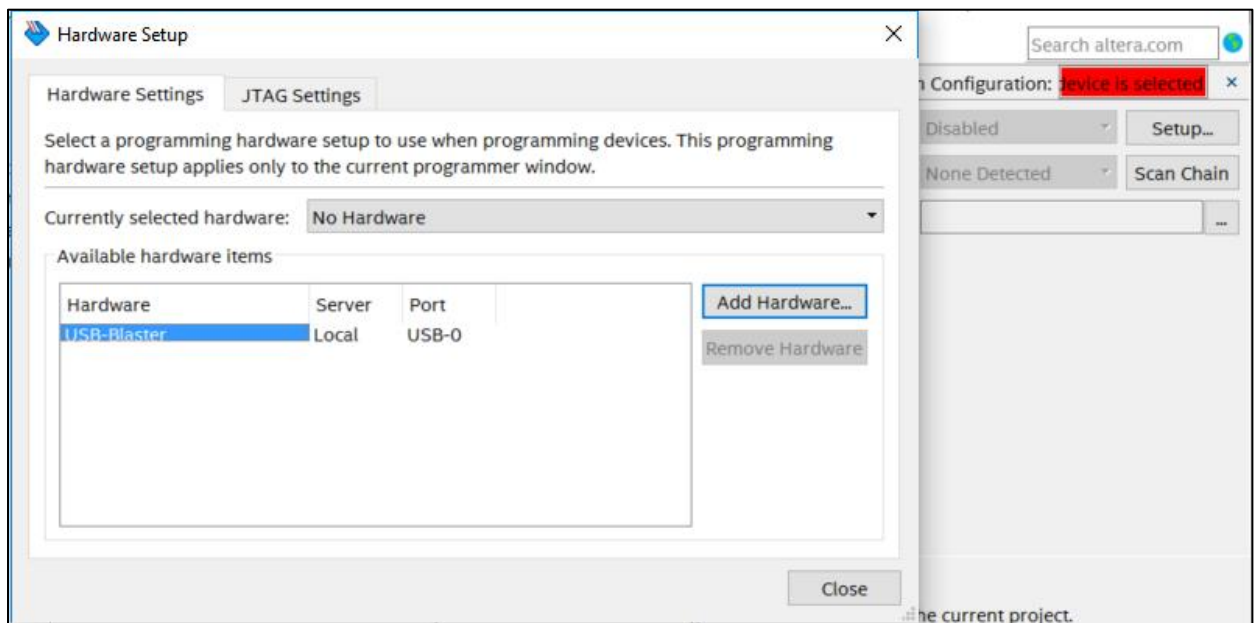

FIGURE 35 INSTANCE MANAGER
3. In **JTAG configuration section**, check your programming hardware. The **USB Blaster** should be selected. If there is no USB-Blaster, Click on **Setup** and select **USB-Blaster** in the drop-down menu as well. Click **OK**. (Refer to Figure 35)